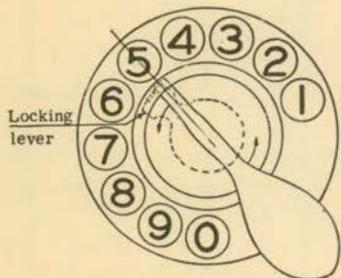

Fig. 5. Unlocking escutcheon ring.
- (a) Insert escutcheon tool beneath escutcheon ring opposite the digit "5" (Fig. 5).